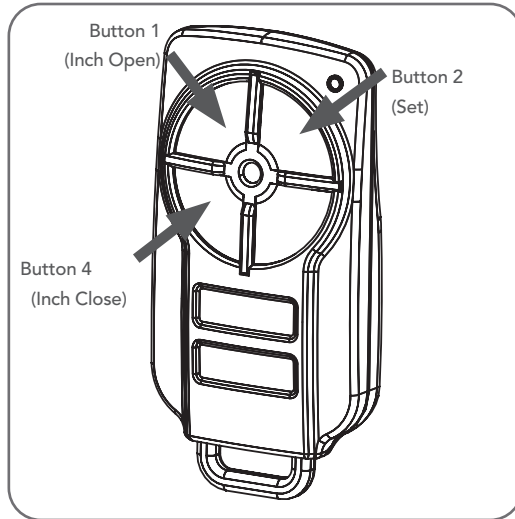

Fig 8.4
- When the door is at the desired close position, press the SET button to record the close limit position. The display will change and green open LED will start to flash (Fig. 8.4).